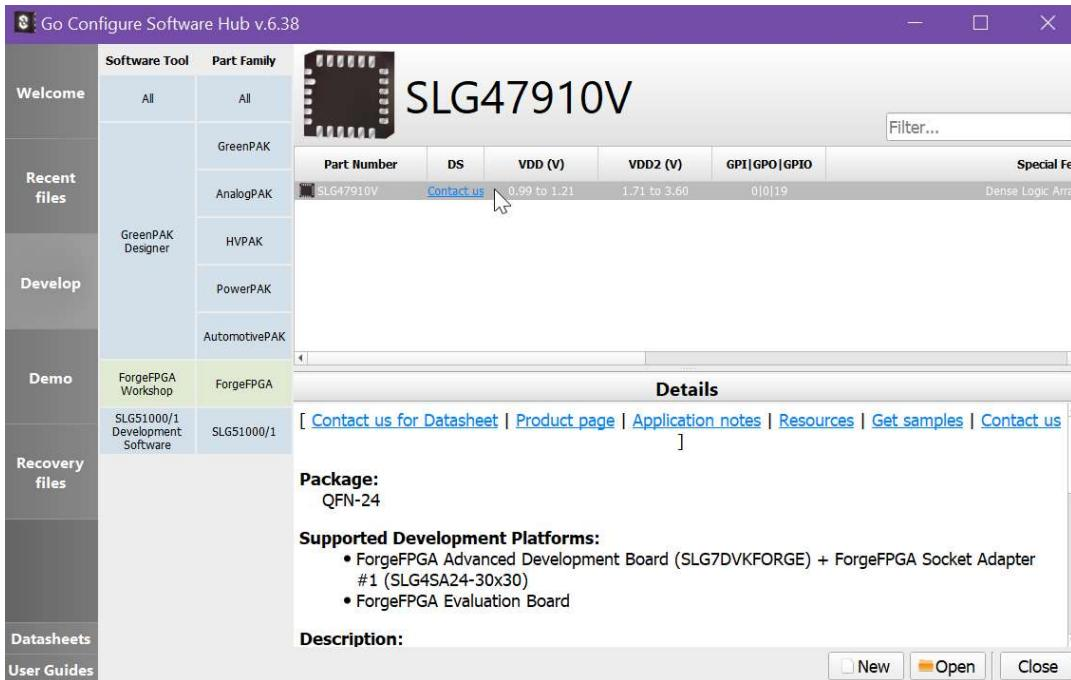

Figure 2. Select SLG47910
- Open the Go Configure Software and select the part: SLG47910(Rev BB) to open the Forge Workshop (see Figure 2).